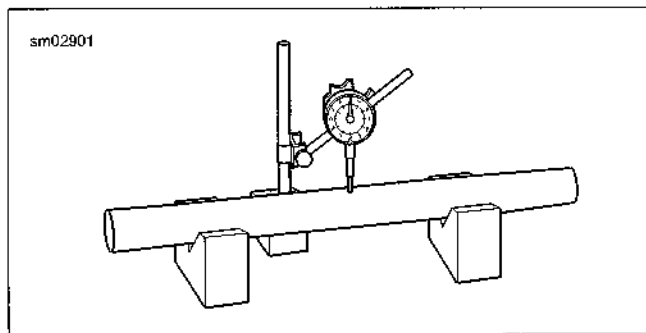

Figure 2-90. Measure Fork Tube Runout
7. See Figure 2-90. Check runout with a dial indicator.